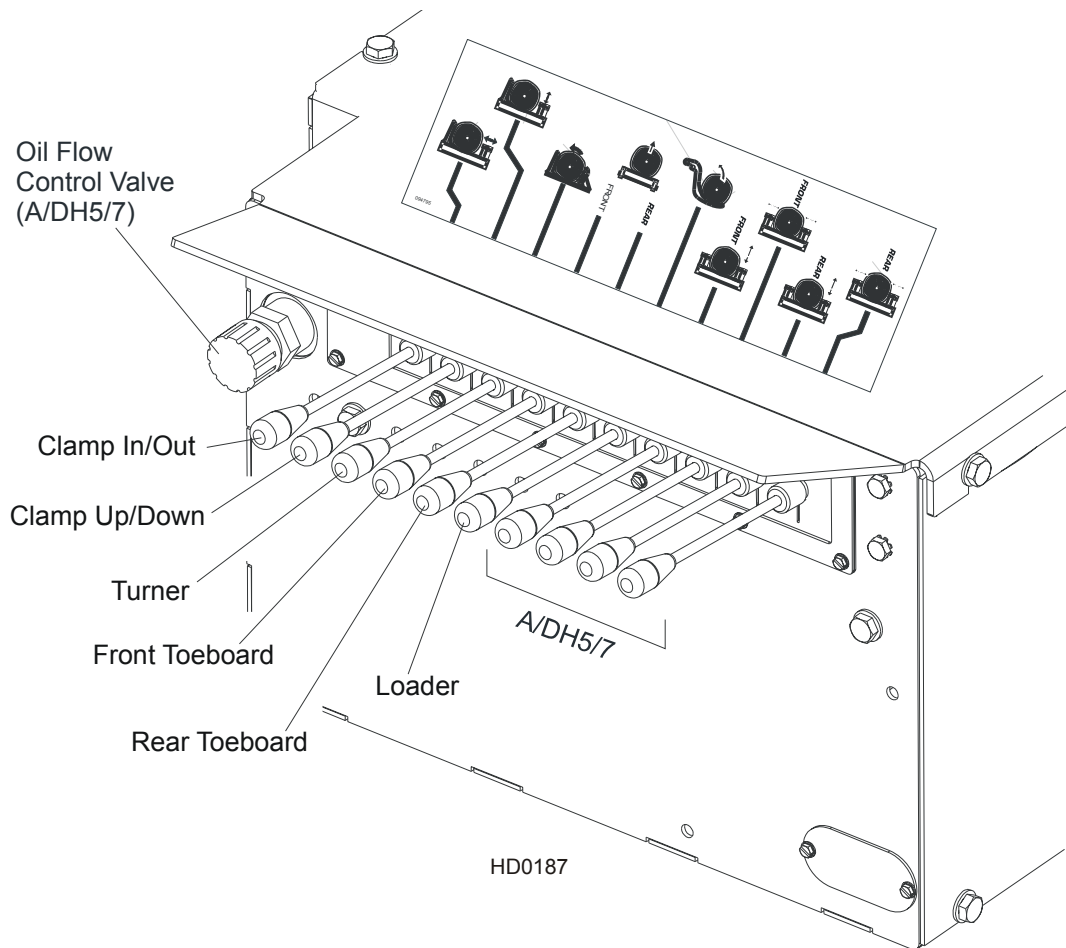

FIG. 2-10
**See Figure 2-10.** A/DH3 hydraulic units have six control levers to load, clamp, turn and level logs. A/DH5 and A/DH7 hydraulic units have four additional levers for controlling the Pull-Down clamps. In sawmills equipped with A/DH5 hydraulic system, individual Pull-Down clamps are controlled with separate levers. In sawmills with A/DH7 hydraulic system, in/out movement of individual clamps is controlled with the same lever and up/down movement of individual clamps is controlled with separate levers. A/DH5 and A/DH7 hydraulic control boxes are equipped with an oil flow control valve.